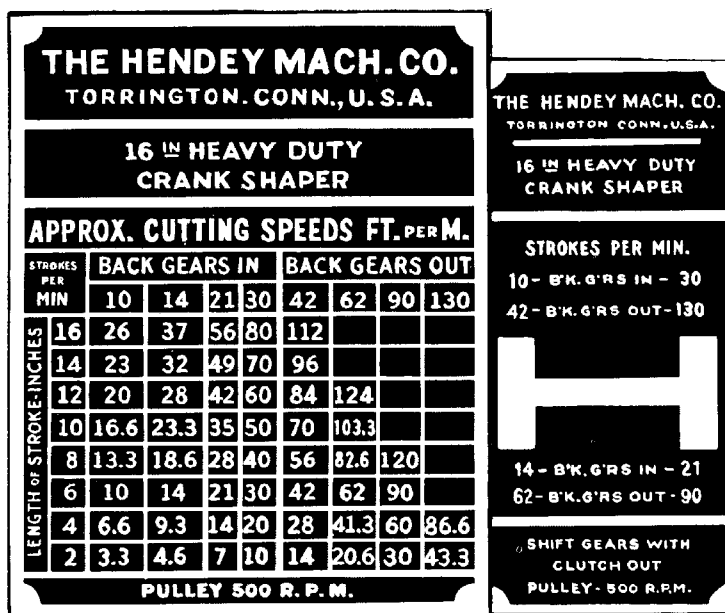

FIG. 76
1. Examine the speed plate shown in Fig. 76. Note that the factors needed to determine the speed of the shaper have been included on it.
5. Locate in the first column (Fig. 76) on the left side of the speed plate the number which corresponds with the length of the ram stroke as indicated on the stroke-index dial.
**NOTE:** The cutting speeds which result from various combinations of stroke lengths and ram speeds — two factors which determine the cutting speed of the shaper tool — are frequently supplied on a speed chart attached to the shaper, as shown in Fig. 76. In other cases, the manufacturer supplies a table of cutting speeds in an operator's manual. The table shown in Fig. 79 has been reproduced to use in adjusting the speed of the shaper.